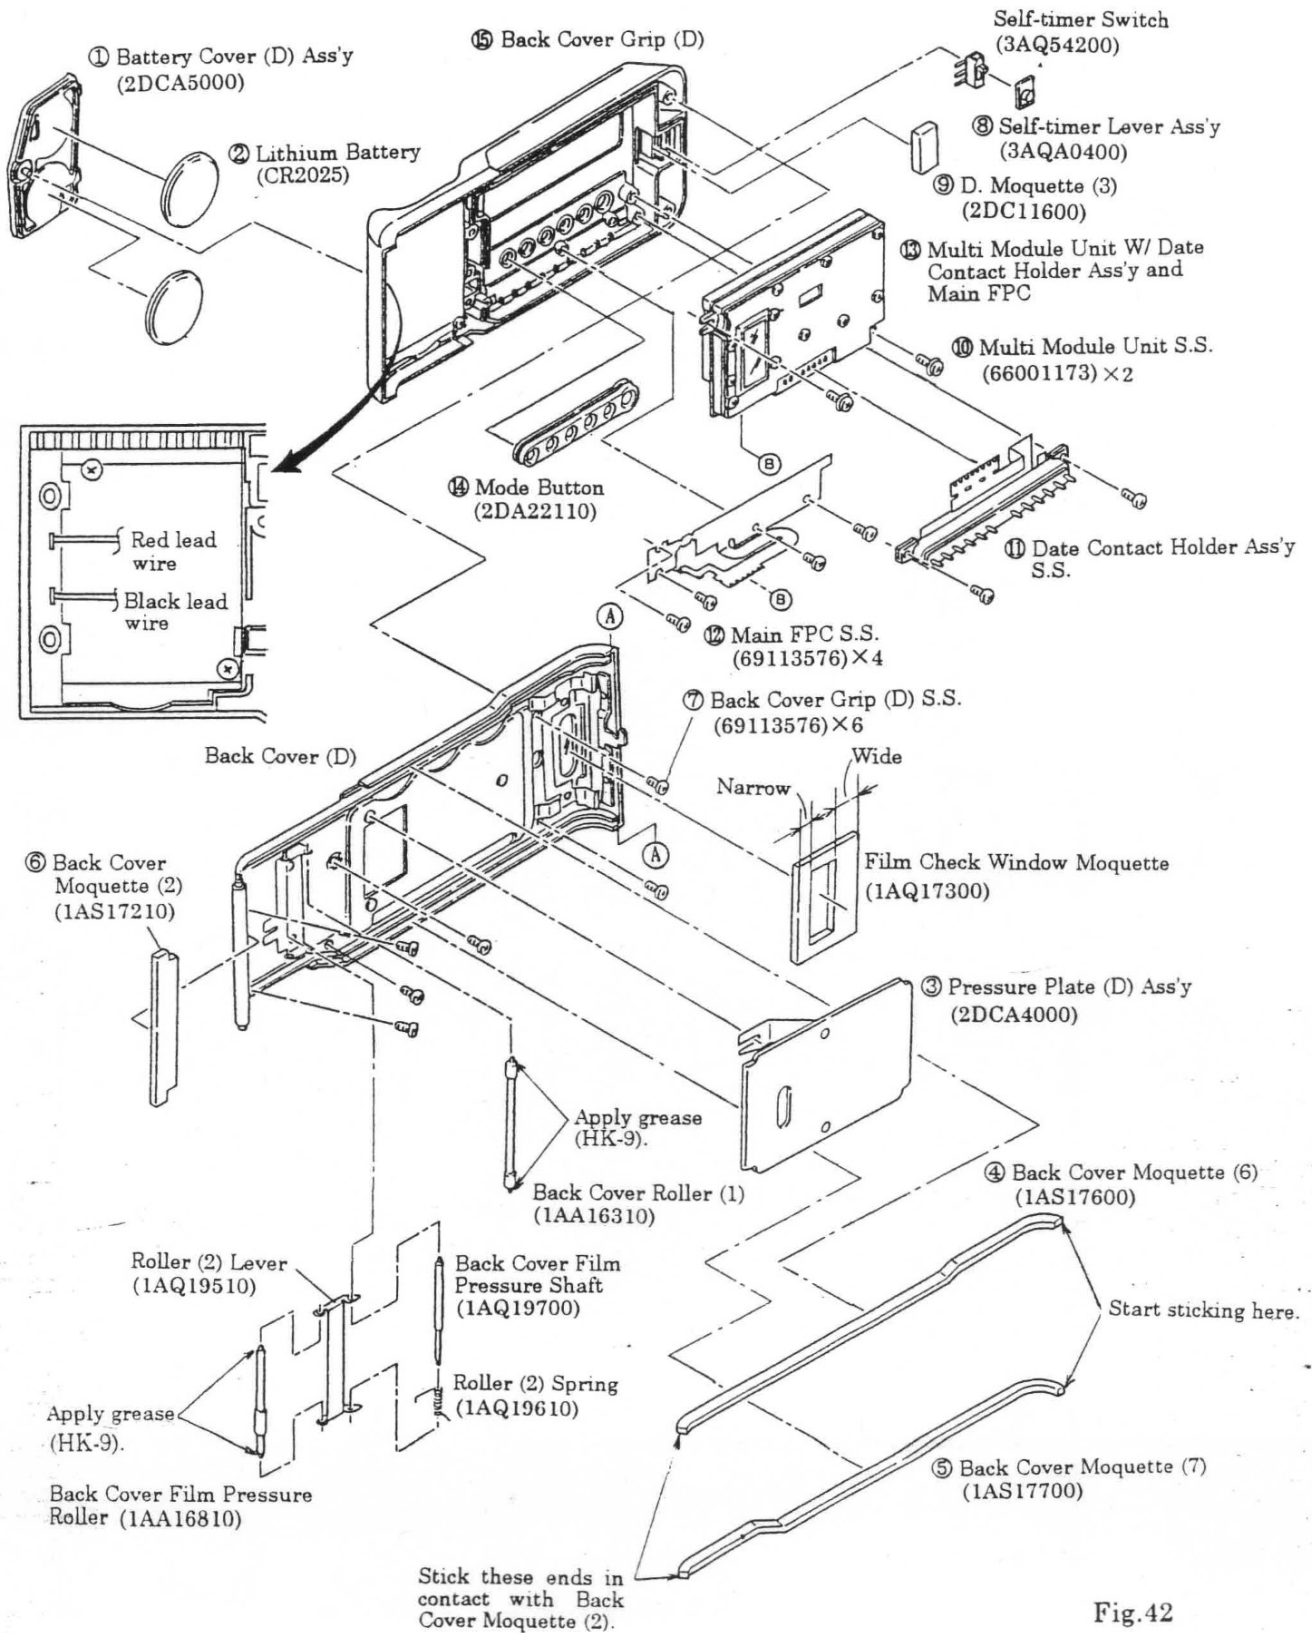

Fig.42
- 1) Remove parts in the numerical order of ① to ⑨ shown in Fig. 42.
- 3) Remove parts in the numerical order of ⑩ to ⑮ shown in Fig. 42.
- a) Apply Grease (HK-9) to both ends of each of the Back Cover Film Pressure Roller (1AA16810) and Back Cover Roller (1) (1AA16300). (See Fig. 42)
Immediately after applying the bond, attach the Back Cover Moquette (7) (1AS17700) and Back Cover Moquette (6) (1AS17600), starting at A end of the Back Cover (D). Ensure that the other ends of the Back Cover Moquette (7) and Back Cover Moquette (6) are in contact with the Back Cover Moquette (2). (See Fig. 42)
- d) Stick the Film Check Window Moquette (1AQ17300) in the position as shown in Fig. 42.
(See Fig. 42)